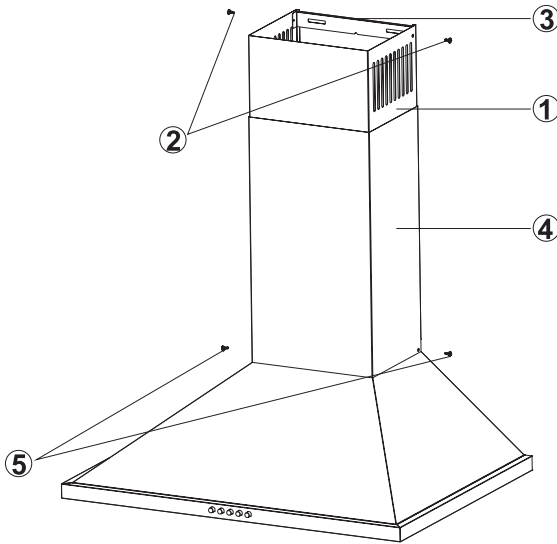

Figure 10: Mounting sheet stacks
Install air exhaust connection of the appliance. Internal and external sheet stacks are inserted to each other. "Installation Scheme and Parts". Center stack connection sheet (3) on the hood, hold it under the cover or measure and mark C, D points. (Figure 10)
- Drill C, D points with $\varnothing 6\text{mm}$ drill and place $\varnothing 6\text{mm}$ plastic pins. Place stack connection sheet on the surface where 3.9x22 screws will be installed. (Figure 10)
- Pull out the internal stack (1) using screws (2) and screw it on stack connection sheet on the right and left (3). (Figure 10)
- Mount the external stack (4) on hood body using 2 screws (5). (Figure 10)